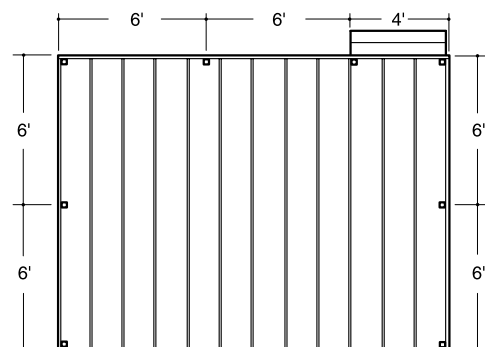

fig. 2
**Step 1** Determine the number of railing posts needed for your deck. Post spacing is either 6' on center or 8' on-center depending on the rail length chosen. Example: A 12' x 16' deck attached to a building with a 4' access opening on one side will require a total of eight posts (fig. 2).